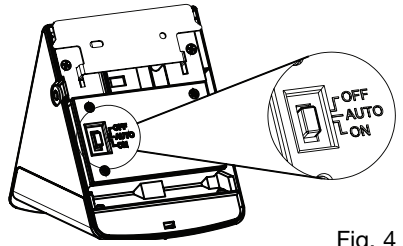

Fig. 4
1. After fixture has received four (4) full days of sunlight, turn the switch on the back of the fixture to the AUTO position.
3. Modes of slide switch (Fig. 4):